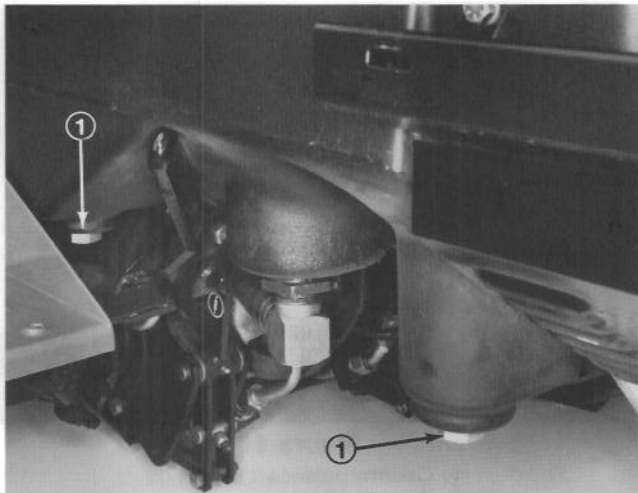

Figure 46
2. Remove drain plugs (Fig. 46) from both ends of reservoir and let hydraulic oil flow into drain pan. Re-install and tighten plugs when hydraulic oil stops draining.